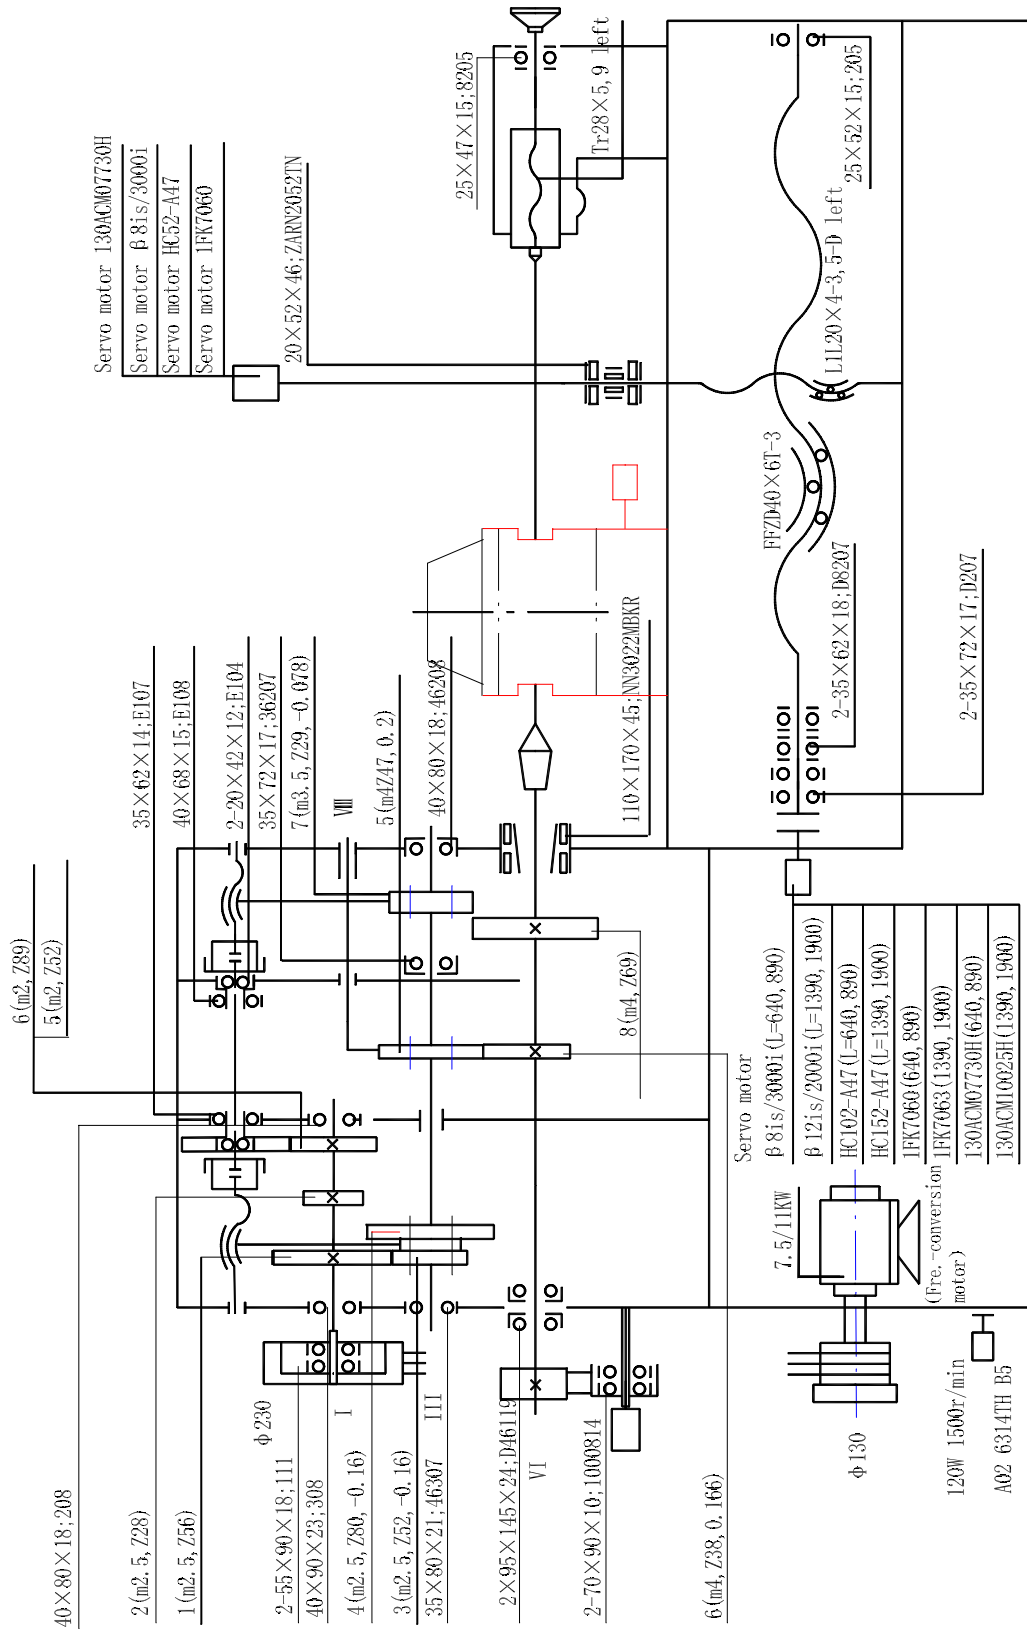

Fig. 3-2 Drawing of main transmission of power changing step
- Power-driven freq.-conversion (See Fig.3-2)